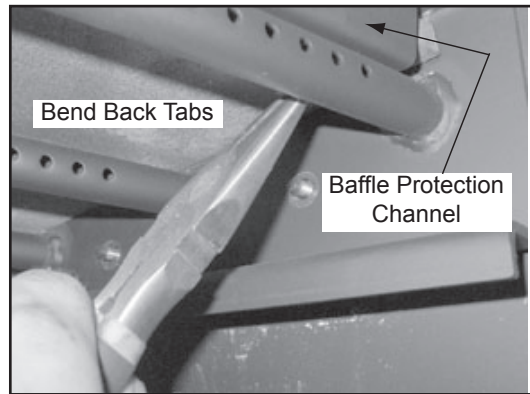

Figure 25.2
2. Remove the baffle protection channel by bending back the tabs using needle nose pliers located at the right and left side of the protection cover. Lift the cover up slightly and pull toward the front and out of the firebox (Figure 25.2).